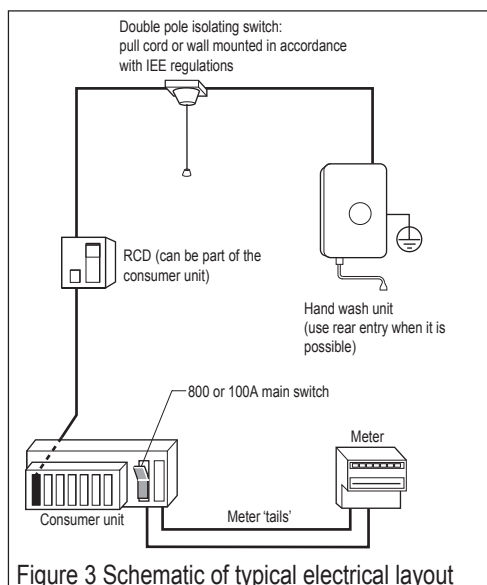

Figure 3 Schematic of typical electrical layout
- 6.3 A double-pole isolating switch having a contact separation of 3mm in each pole **MUST** be incorporated to the circuit - see Figure 3 p7.